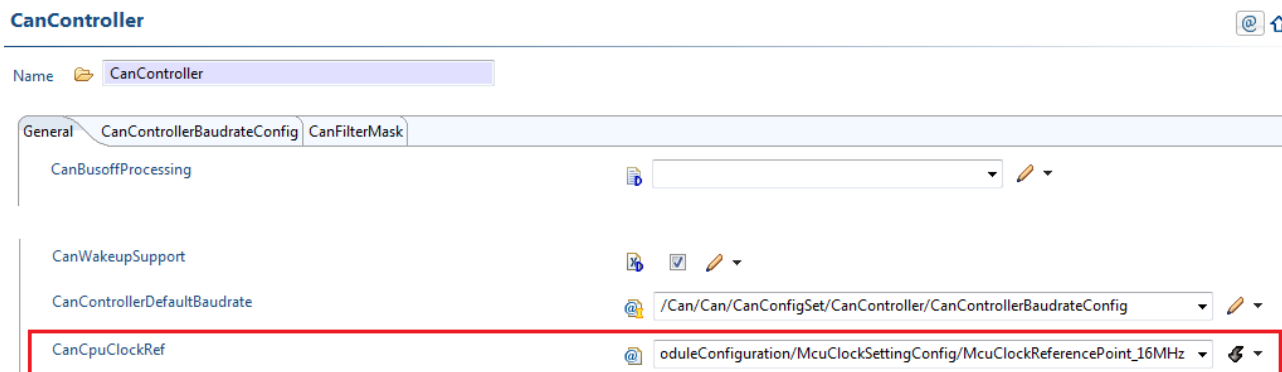

Figure 4.9. Configuring `CanCpuClockRef`
2. Update the parameter `CanCpuClockRef`. For an example, see Figure 4.9, “Configuring CanCpuClockRef”.